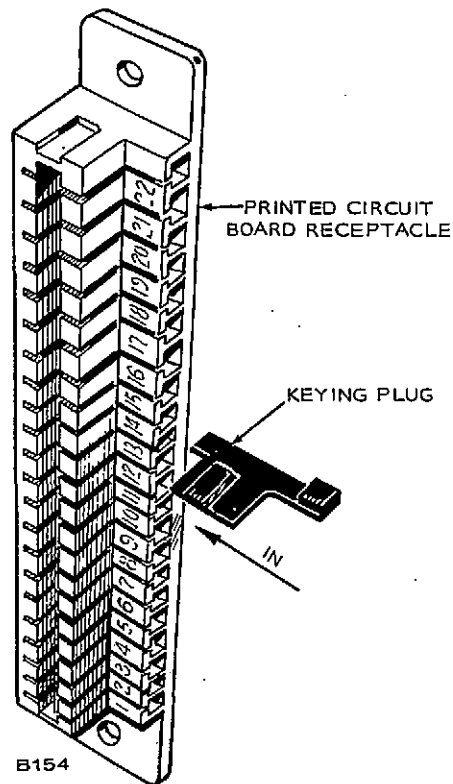

FIGURE 9. INSTALLATION OF KEYING PLUG
5. Install keying plug(s), #332-2114 for begin.Spec C or #332-1276 for Spec A or B AT, in the slot(s) of the printed circuit board receptacle as needed. Figure 9 shows how a keying plug is inserted into the receptacle. See a control accessory panel wiring diagram showing location of the keying plug(s) for that particular module.